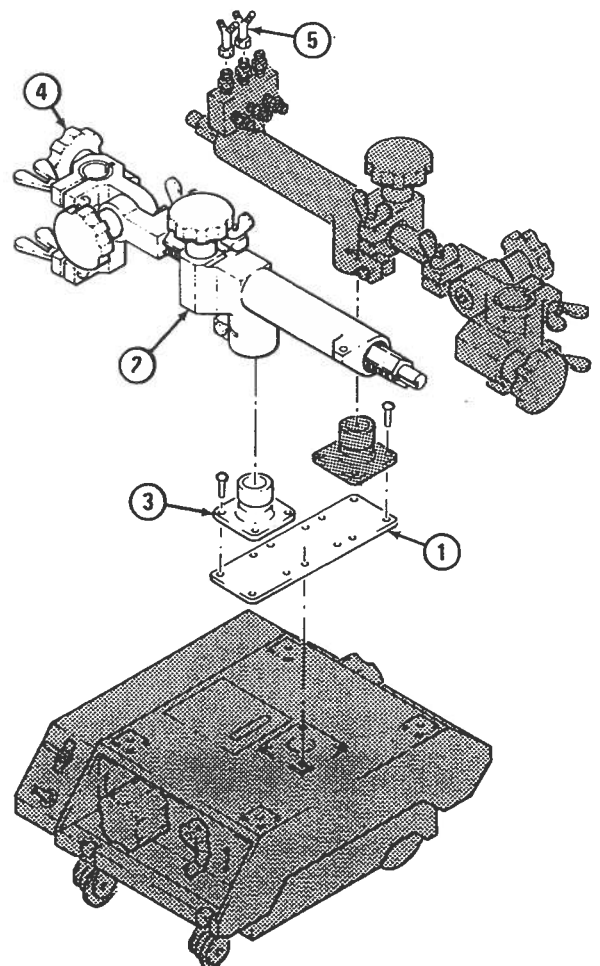

Figure 2-2. Pre-Operation Set-Up
The optional dual torch mount assembly is set up as shown in Figure 2-2. Install the dual torch mount plate (1) on the machine housing in place of the single torch mount post supplied with the standard machine package. The removed single torch mount post should be attached, along with the second one supplied with the dual torch mount assembly, at the ends of the dual torch mount plate.